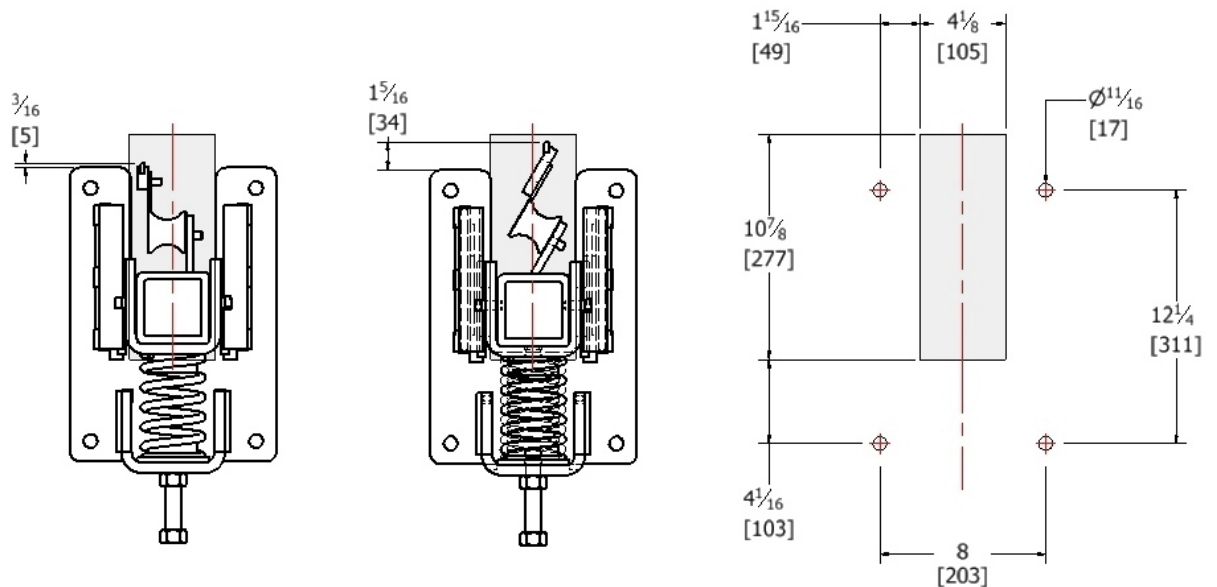

Figure 4: Mounting Bracket Hole Dimensions
The Mounting Bracket should be attached to the chute wall or conveyor structure using the four mounting holes and $\frac{1}{2}$ -13 UNC x $2\frac{1}{2}$ inch hex head bolts. See Figure 4 for mounting hole dimensions.
- To determine the desired vertical location of the Mounting Brackets. Locate the Mounting Bracket so that the top of the rectangular cut out is approximately even with the bottom edge of the belt. See Figure 4.
- If the Razor-Back MDX is to be installed on a conveyor with an enclosed chute, it may require that slots and holes be cut in to mount the cleaner. If required, mark and cut slots of the chute side wall to allow the Mounting Tube to pass. The required slot size/location and hole size/location are shown in Figure 4.